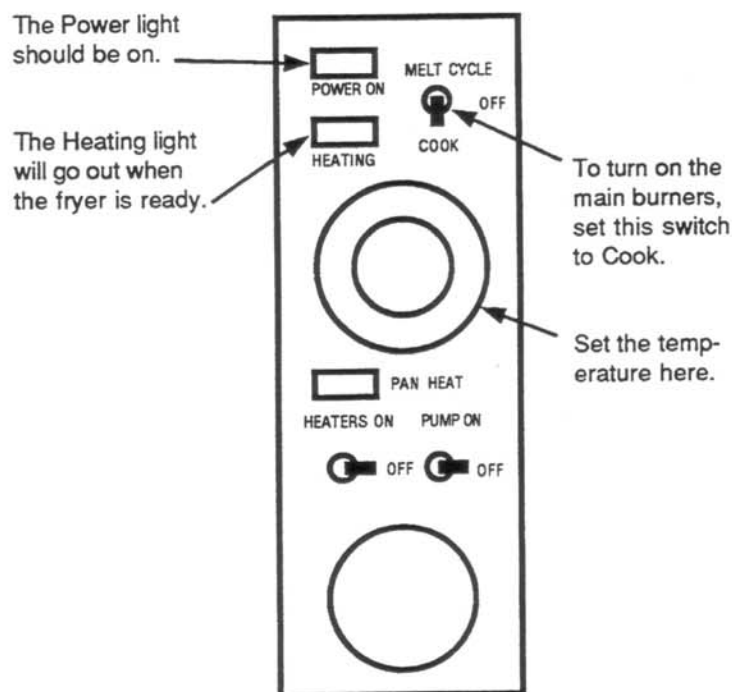

Figure 11
3. If you are using liquid shortening, set the Melt Cycle-Off-Cook switch to the Cook position. See Fig. 11. The main burners will light, and the Heating lamp will glow. The burners and the Heating lamp will stay on until the shortening reaches the desired temperature.
4. If you are using liquid shortening, set the Melt Cycle-Off-Cook switch to the Cook position. See Fig. 11. The main burners will light and stay on until the shortening reaches the desired temperature.